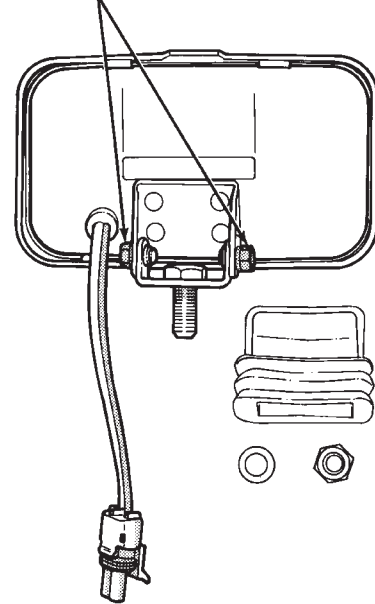

Fig. 41 Fog Lamp—XJ Vehicles
(2) Remove the retaining nut and washer from each side of the support bracket and remove the fog lamp from the support bracket (Fig. 41).